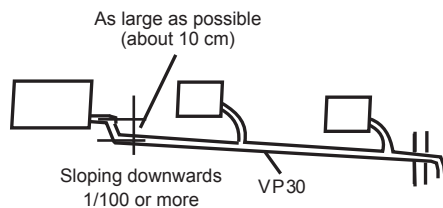

Figure 5.2 Centralised water discharge
7. When the outlet of the water discharge pipe is higher than the pipe connection for water suction, try to keep the water discharge pipe as vertical as possible, and the water outlet connecting fittings will bend so that the height of the water discharge pipe should be within 1000 mm away from the base of the drain pan. Otherwise, there will be excessive water flow when the operation stops. See Figure 5.2.